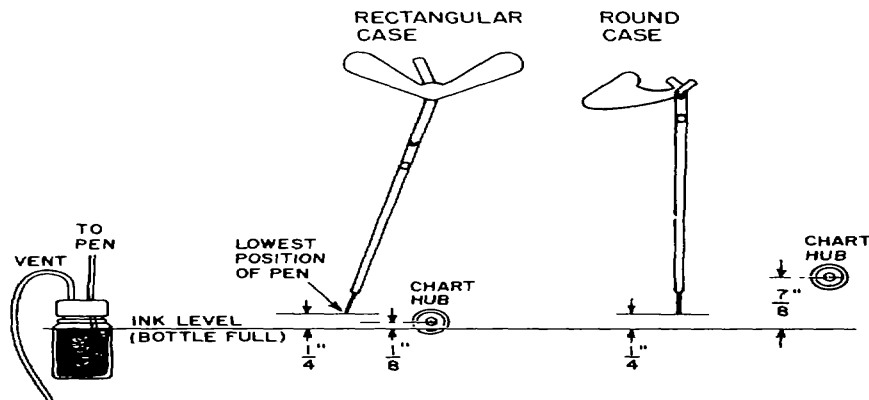

Fig. 1 Ink Level Location
3. Adjust the height of the bottles as indicated in Figs. 1 and 6. If the ink level is above the level of the pen tip, the hydraulic head will cause the ink to run out of the pen.
2. Mount the ink bottle brackets to meet ink level, inspection, and maintenance requirements. See Figs. 1 and 6.